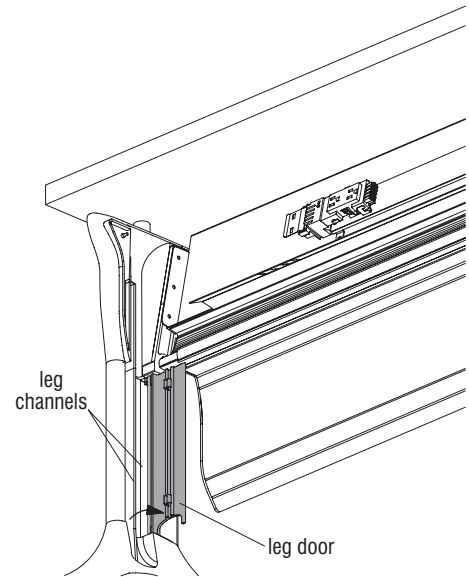

Figure 3
2. Open the leg door exposing the two channels in the leg (Figure 3). The leg channel that is closest to the front of the leg is the electrical raceway.